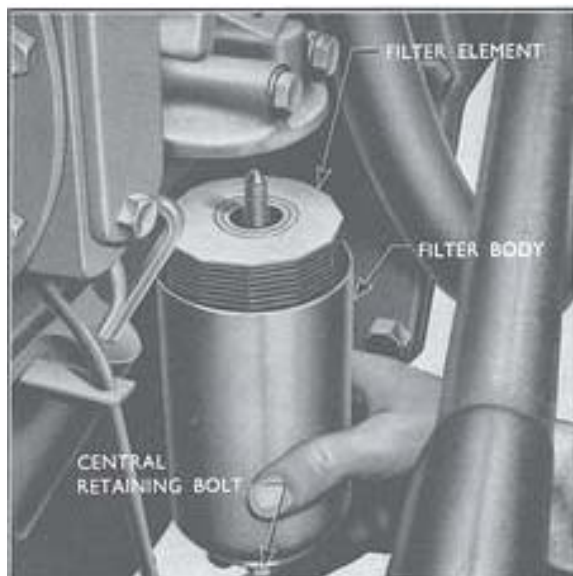

Fig. 31
5. Remove the oil pump idler gear retaining clip and lift off the idler gear (see Fig. 31).